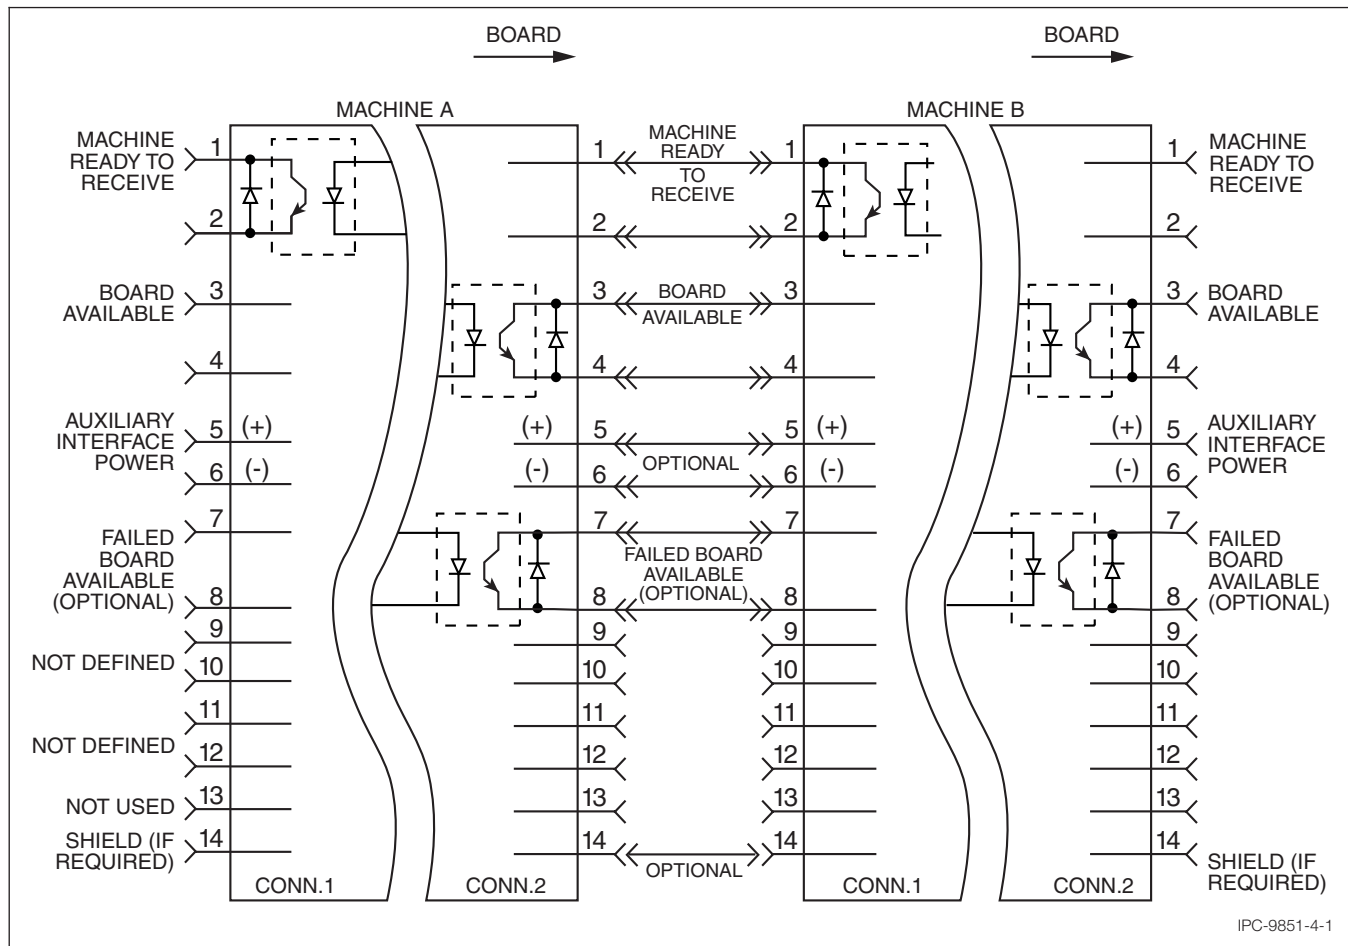

Figure 4-1 Electrical Interface Schematic
4.2 Inter-Machine Connections See Figure 4-1 and Table 4-1.